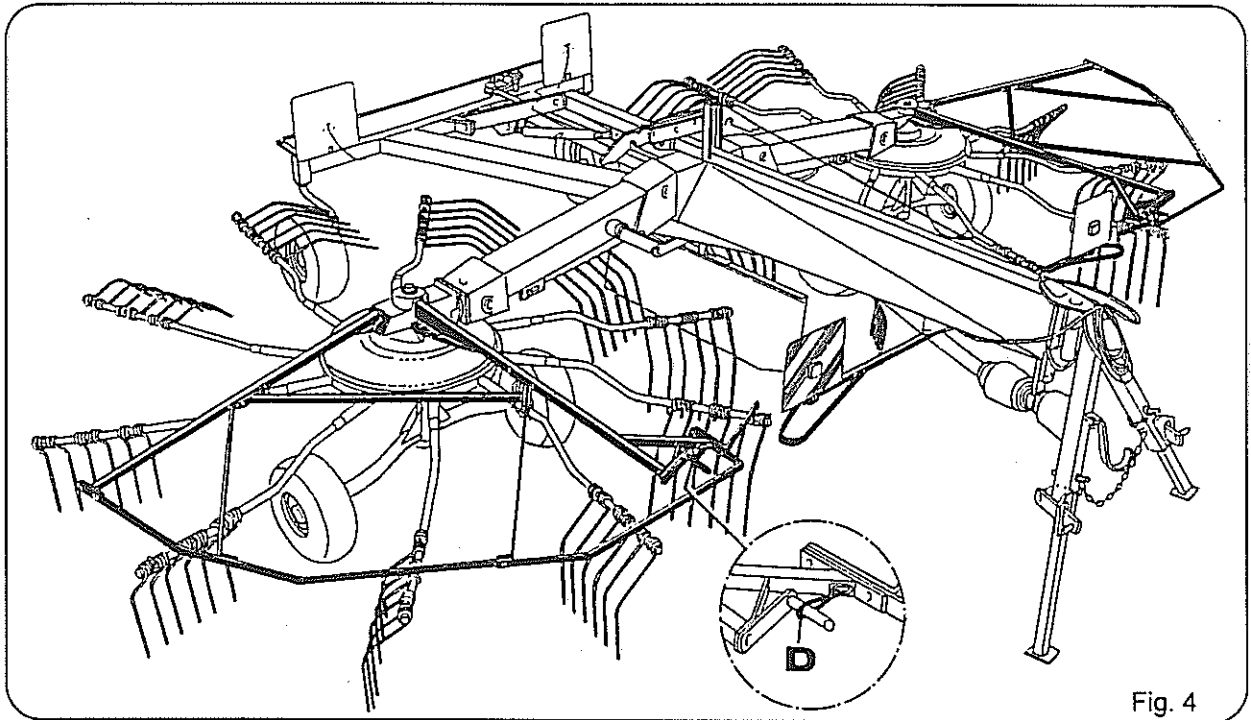

Fig. 4
1. The safety guard with crank handle for height adjustment of the rotor and centre safety frame must be attached (see fig. 4). Secure the crank handle on the left side as well as on the right side with the rubber band provided (fig. 4, pos. D).